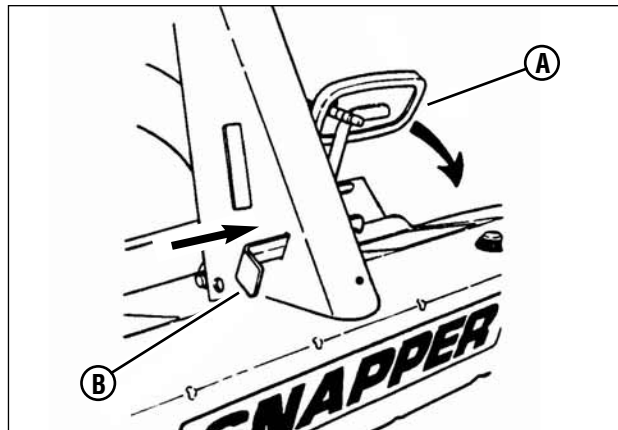

Figure 8: Setting the park brake
3. Press the Clutch/Brake Pedal (**A**, **Figure 8**) all the way down, move the park brake latch (**B**) over, and release the clutch/brake pedal to set the park brake.